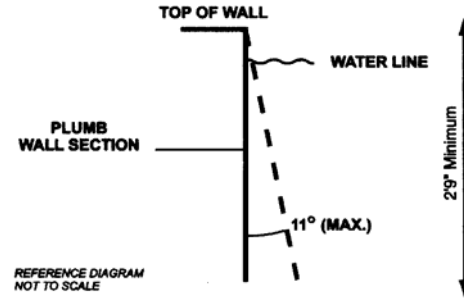

Figure 1- Maximum allowable wall slope
5.3.1 Walls in the shallow area and deep area of the pool shall not slope greater than 11° (1:5 slope ratio) to a transition point. The transition point shall not be less than 2 feet and 9 inches (83.8 cm) below the waterline. See Fig. 1.